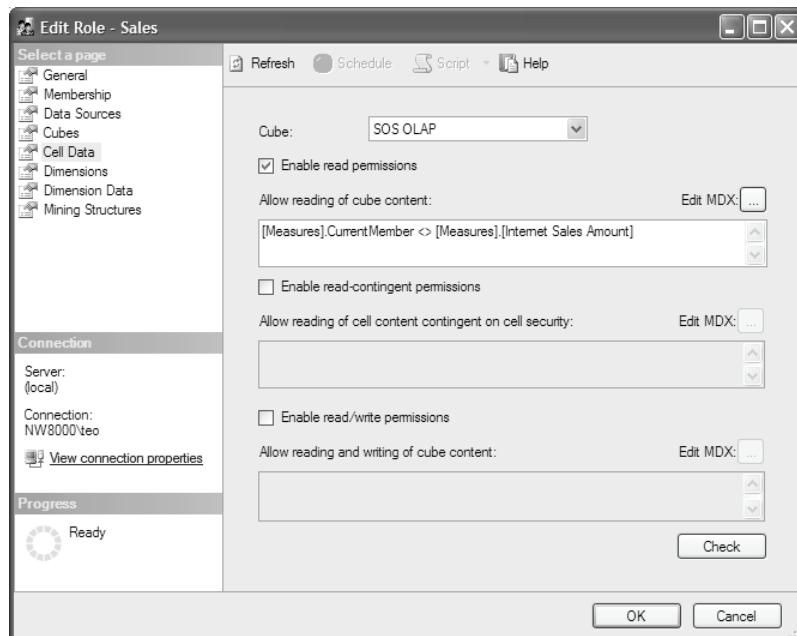

Figure 16.25 Prevent a role from reading cube cells with a Boolean MDX expression.
1. In the Edit Role dialog (Figure 16.25), click on the Cell Data page.